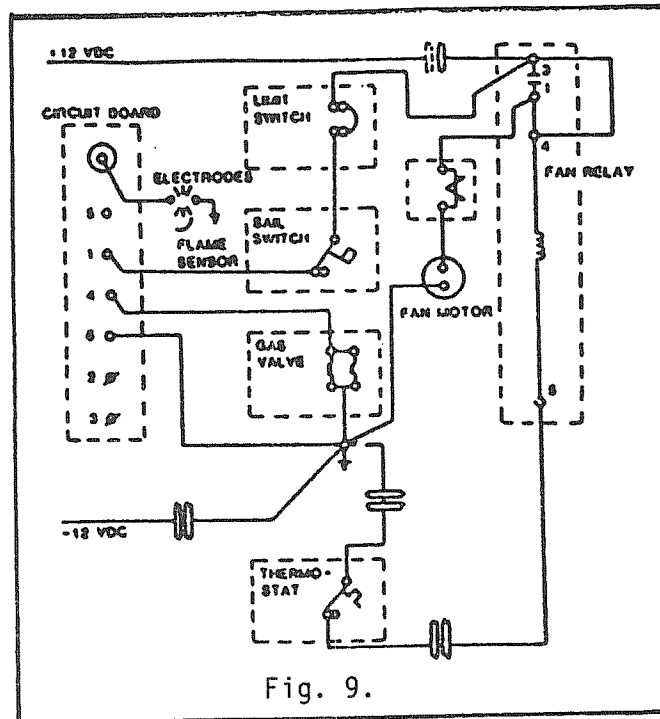

Fig. 9.
- E. When the 20 second purge time is complete, the circuit board will switch +12 VDC to the ungrounded terminal of the gas valve and the gas valve will open. The circuit board will simultaneously initiate the igniter spark through the large orange wire to the igniter electrode, then ignition will occur. See Fig. 9.